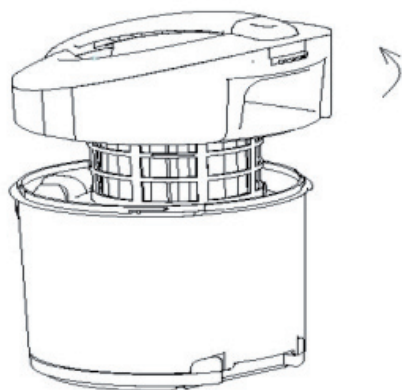
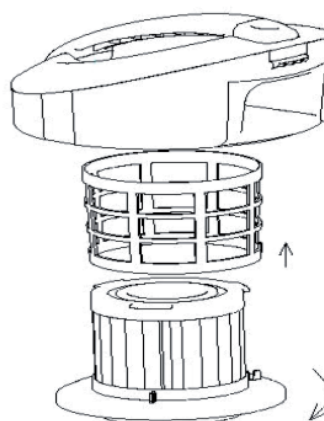

Fig. 3
Fig. 4
- 5) Open the Dust Container as shown Fig. 3. Take out the HEPA filter from the dust container as shown Fig. 4. Clean the filter following the instructions in part HEPA filter cleaning. Dry thoroughly before putting it back!